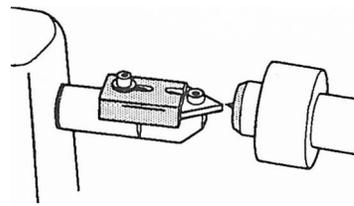

Fig. B-9
7. Move the table next to the tailstock. The tailstock center's tip must be vertically in line with the cutter top surface, as seen in Fig. B-9. Raise or lower the tailstock until aligned.